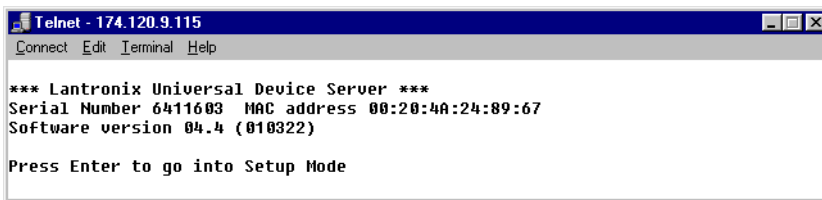

Figure 27: Telnet Sign-on Screen
6. Press <Enter> to go into the LAN-50/LAN-500 Setup mode as soon as the Telnet sign-on screen appears (see Figure 27). There is a two to three second delay in which you must press <Enter> before the Telnet session automatically closes. If the Telnet session closes before you enter Setup mode (if a “Connection to host lost” message appears), simply click the box to clear the connection lost message and repeat the Telnet connection command in Step 5.